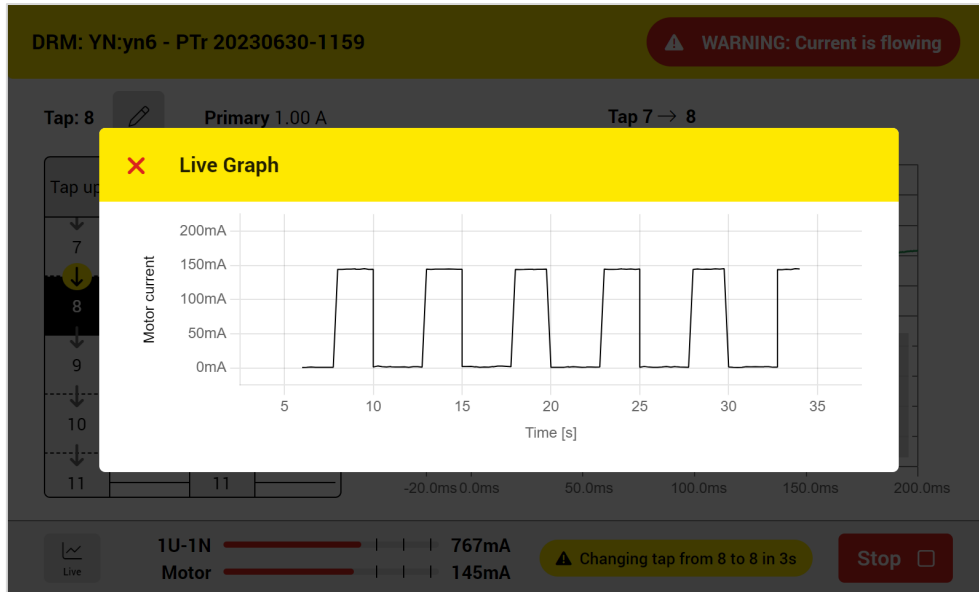

Figure 90: Tap changer motor live graph
- 3 To see the tap changer motor live current curve over the time (Figure 90)